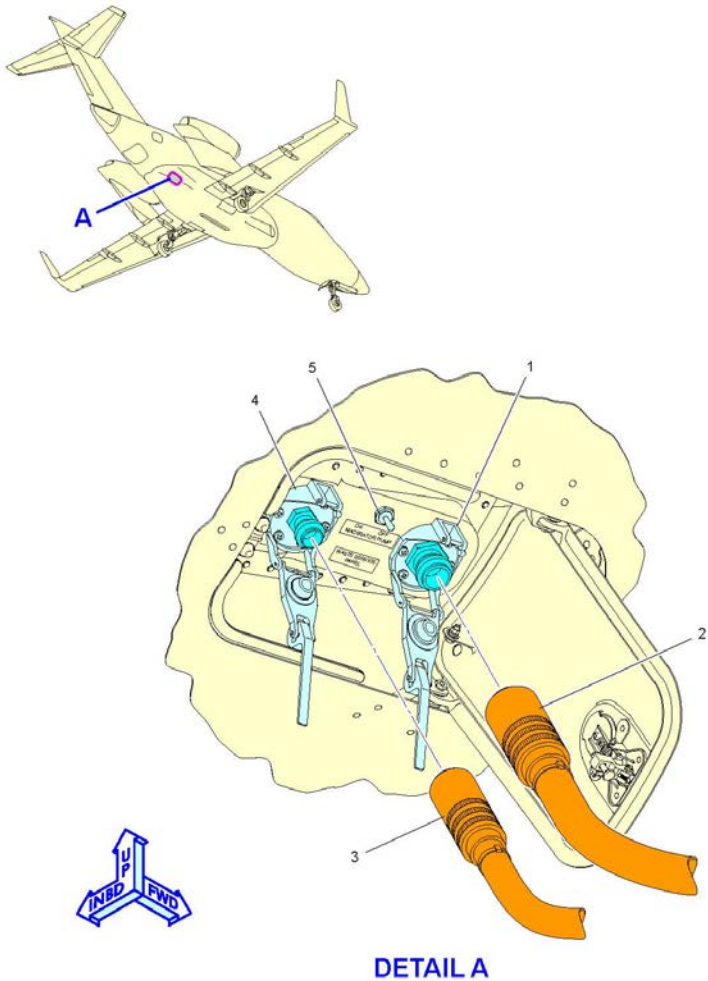

Figure 4-11. Waste Service Panel
3. Open the caps on the fill service port (4) and the waste service port (1) on the waste service panel (Figure 4-11).
5. Connect the flushing fluid hose (3) to the fill service port (4) on the waste service panel.
6. Connect the waste fluid hose (2) to the waste service port (1) on the waste service panel.
15. Disconnect the waste fluid hose (2) (Figure 4-11) from the waste port (1) on the waste service panel.